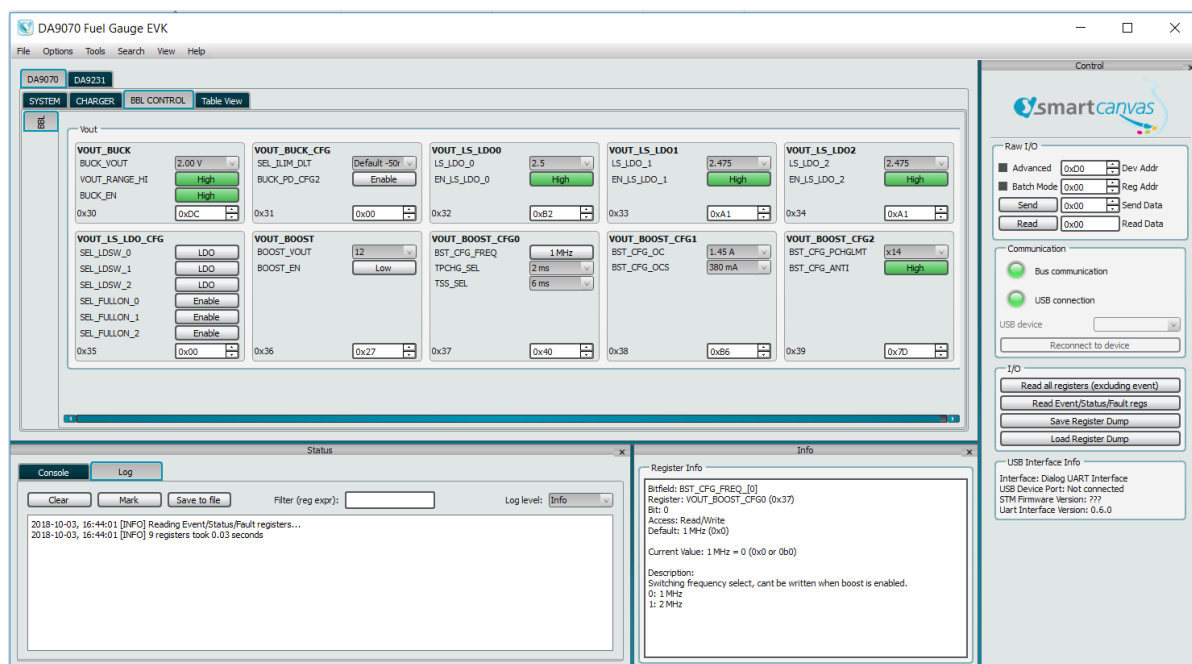

Figure 4: GUI for DA9070 Fuel Gauge EVK
- If the USB cable is connected to a PC, open the "DA9070 Fuel Gauge EVK" GUI that was installed on the PC. Start to configure device registers as well as read device status using GUI, as shown in Figure 4.